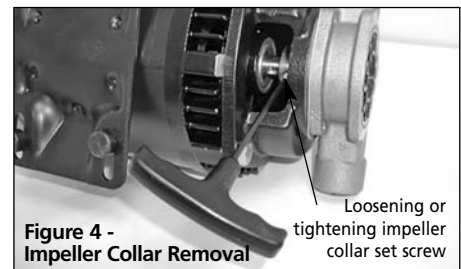

Figure 4 - Impeller Collar Removal
- b. Orient the pump shaft so the set screw on the collar (Ref. No. 20) is visible through the bottom of the motor adapter (Ref. No. 17). Loosen set screw on collar (Ref. No. 20) (See Figure 4).
- d. Tightening the collar set screw is the last step of impeller assembly (See Figure 6). Ensure collar set screw tightens on the key and not against impeller sleeve as burrs may occur on the sleeve resulting in future disassembly problems (See Figure 4).